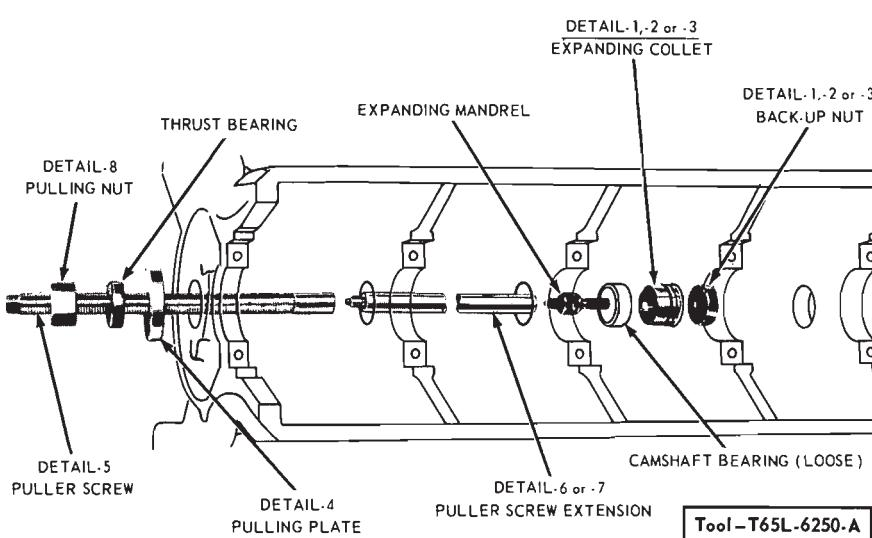
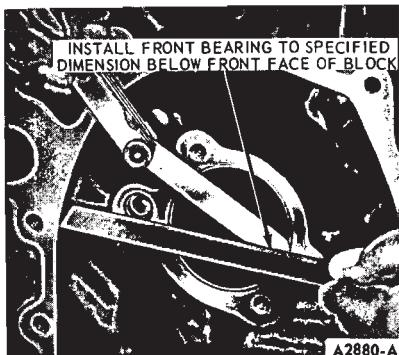

FIG. 63—Camshaft Bearing Replacement
FIG. 64—Camshaft Front Bearing Measurement
2. Remove the camshaft rear bearing bore plug. Remove the camshaft bearings (Fig. 63).
1. Position the new bearings at the bearing bores with the oil holes aligned, and press them in place with the tool shown in Fig. 63. Be sure to center the pulling plate and puller screw to avoid damage to the bearing. Failure to use the correct expanding collet can cause severe bearing damage. Be sure the front bearing is installed the specified distance below the front face of the cylinder block (Fig. 64).
**30.** Remove the camshaft rear bearing bore plug. Remove the camshaft bearings (Fig. 63).
**3.** Position the new camshaft bearings at the bearing bores with the oil holes aligned, and press them in place with the tool shown in Fig. 63. Be sure the camshaft front bearing is installed the specified distance below the front face of the cylinder block.